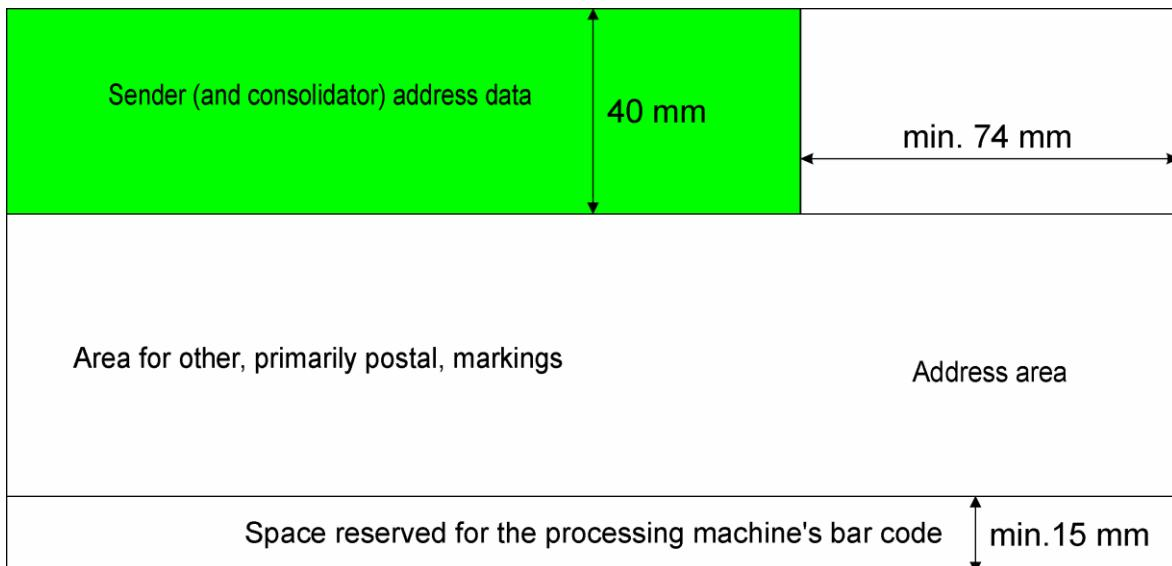

Figure 16: Area for the sender's address on ordinary and medium-sized items
- b) Indicia area for franking marks or affixing postage stamps (*marked green in Figure 16*).